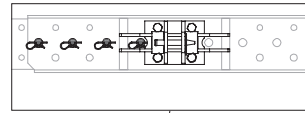

Fig. B2.01a
1. Position the bracing connector (**12a**) between the two ribs in the telescopic arm guide. (Fig. B2.01a)